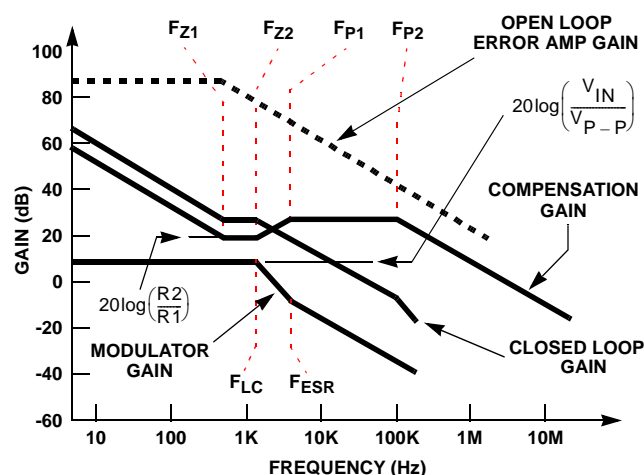

FIGURE 11. ASYMPTOTIC BODE PLOT OF CONVERTER GAIN
Figure 11 shows an asymptotic plot of the DC-DC converter's gain vs. frequency. The actual Modulator Gain has a high gain peak dependent on the quality factor (Q) of the output filter, which is not shown in Figure 11. Using the above guidelines should yield a Compensation Gain similar to the curve plotted. The open loop error amplifier gain bounds the compensation gain. Check the compensation gain at  $F_{P2}$  with the capabilities of the error amplifier. The Closed Loop Gain is constructed on the log-log graph of Figure 11 by adding the Modulator Gain (in dB) to the Compensation Gain (in dB). This is equivalent to multiplying the modulator transfer function to the compensation transfer function and plotting the gain.